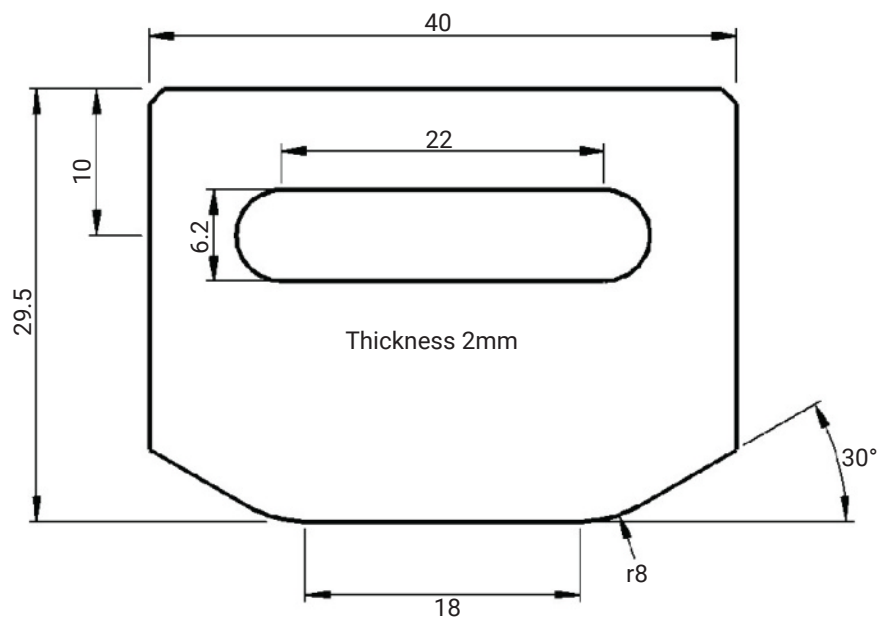

Figure 7.
In fact there is no need for a helical clearance, just use a plain rotation, like for the one lip milling cutter, **photo 4**, and **fig. 6** that shows the cad model: the purple part shows the 12° clearance plane, the yellow part shows the conical part for 36° drill rotation and the blue part the remaining plane. A special cam, **fig. 7**, giving only 36° angular throw, is used with 2 indexes set on the dividing collar. As you can see, there is a point end like for a four-facet sharpening, giving a "self-centring" property.
- 2 Set the special cam (fig. 7) for drill sharpening (giving 36° angle throw) and 2 indexes on the dividing collar.